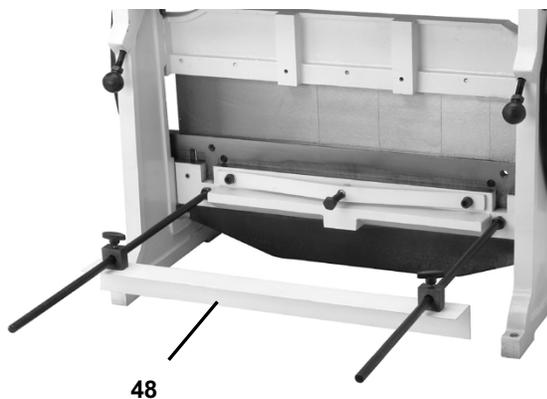

Figure 8-1
1. Adjust the rear stop (#48) to accommodate the length of the cut (fig. 8-1).